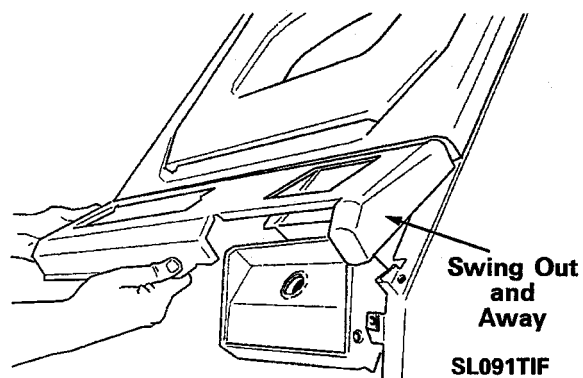

Figure 2-70
4. Lift control panel away from the dryer, *see Figure 2-70.*